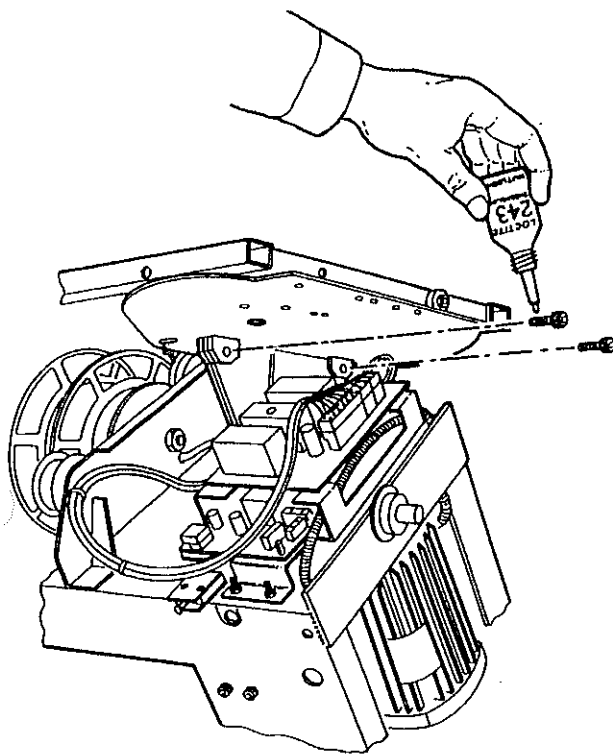

Fig 1.
3. Replace with an M8x 25 long Tufloc Cap Screw (Part No. 2294566). This screw must be assembled with Loctite 243 and tightened to a torque of 30Nm (22lbf. ft), see Figs 1 & 2.